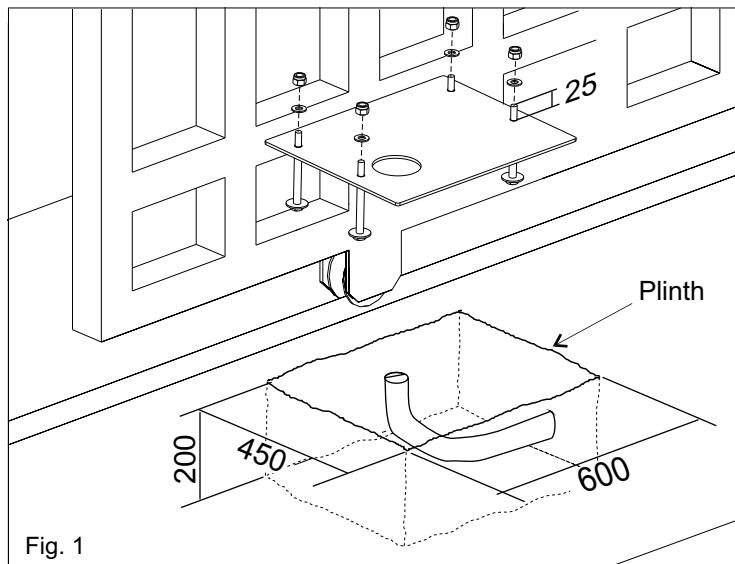

Fig. 1
- 2.1. Have a mounting plate manufactured to the dimensions shown in Fig. 1. The plate will require to have concrete holding into which the foundation plate.